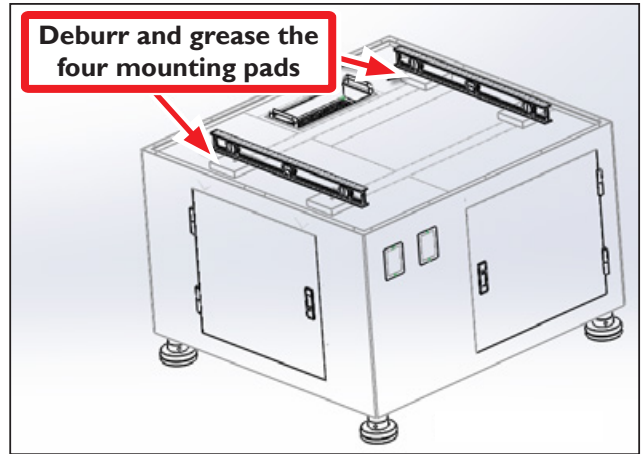

Figure 3
6. Deburr and grease four mill mounting pads to prevent rust (see **Figure 3**).